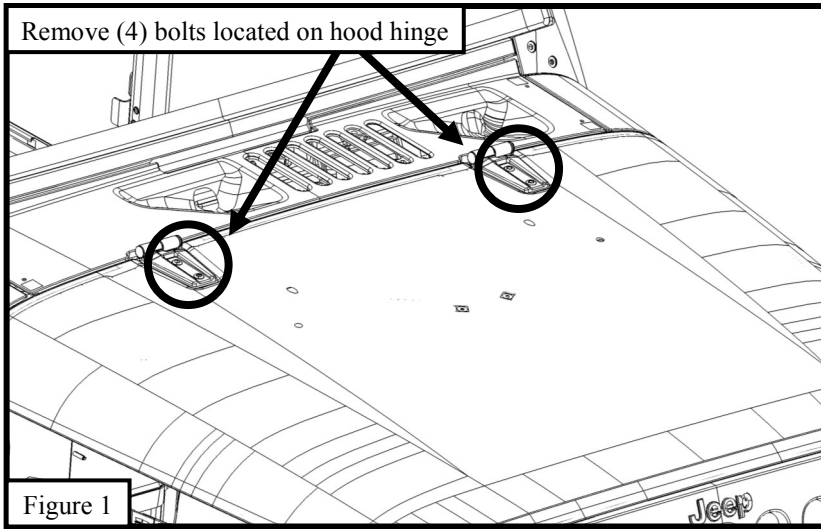

Figure 1
2. Starting on the driver's side of the vehicle, locate and remove the two bolts located on the hood hinge using a T50 torx driver. **NOTE:** Bolts will not be re-used. Refer to **Figure 1**.